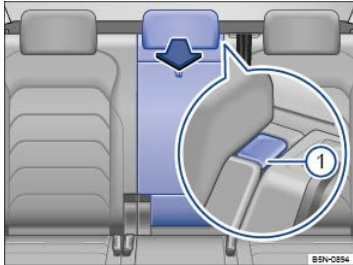

Fig. 163 In the second row seat backrest: Opening the luggage compartment pass-through.
- Press the button ⇒ Fig. 163① and fold the pass-through cover all the way forward.
The pass-through can also be opened from the luggage compartment. Press the button ⇒ Fig. 163① in the direction of the arrow and push the cover forward.